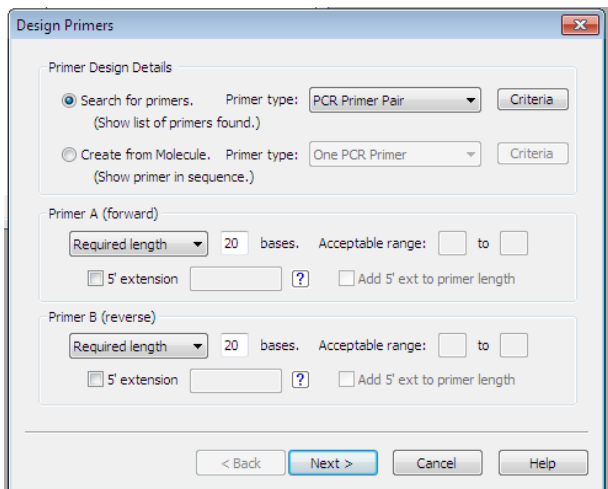

Figure 16
*DNA.* DNA stored in water for longer periods of time, tends to get acidic, which may lead to auto-degradation. TE-buffer prevents the acidification. However, TE-buffer contains EDTA which can ‘catch away’ the magnesium ions in the PCR, causing inhibition (fig 16). This is not a problem when the DNA is stored in high concentration as these have to be diluted anyway. If concentrations are low, PCR water can be also used to store DNA for shorter periods of time. But in general both will work fine.